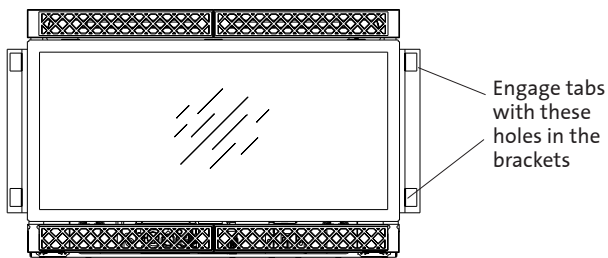

Figure 26. Surround engagement with firebox.
8. Slide the surround down into the mounting holes. Be sure all four mounting tabs engage securely with the adjacent bracket holes. See fig. 26.